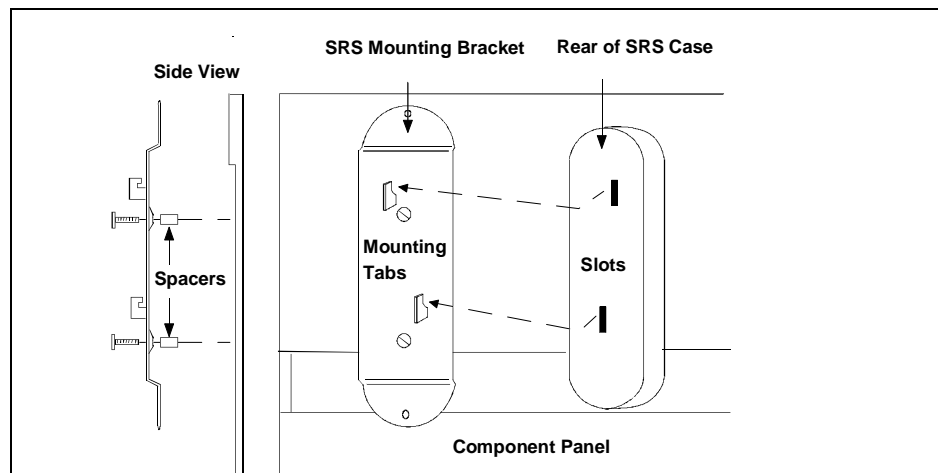

Figure B-9. Installing the SRS
5. The SRS has a special mounting bracket that can be installed in several positions on the component panel, depending on your application (see Appendix F). If it is not already installed, mount the SRS bracket on the component panel (see Figure B-9). To install the SRS, orient it with the **REGEN OUT** port and the cable at the top; align the slots on the back of the SRS with the tabs on the mounting bracket. Press *in* and then *down* to lock the SRS in place. Lift *up* and pull *out* to remove the SRS if necessary.